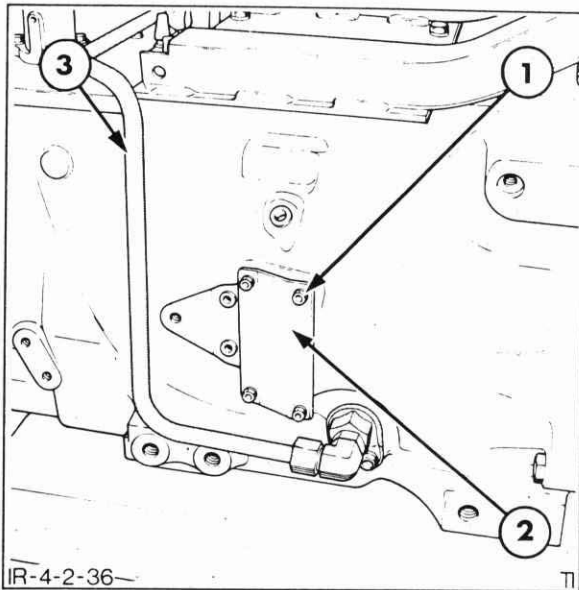

Figure 4-129
1. Remove the lock-up valve access plate retaining bolts and lift the plate from the transmission, Figure 4-129.